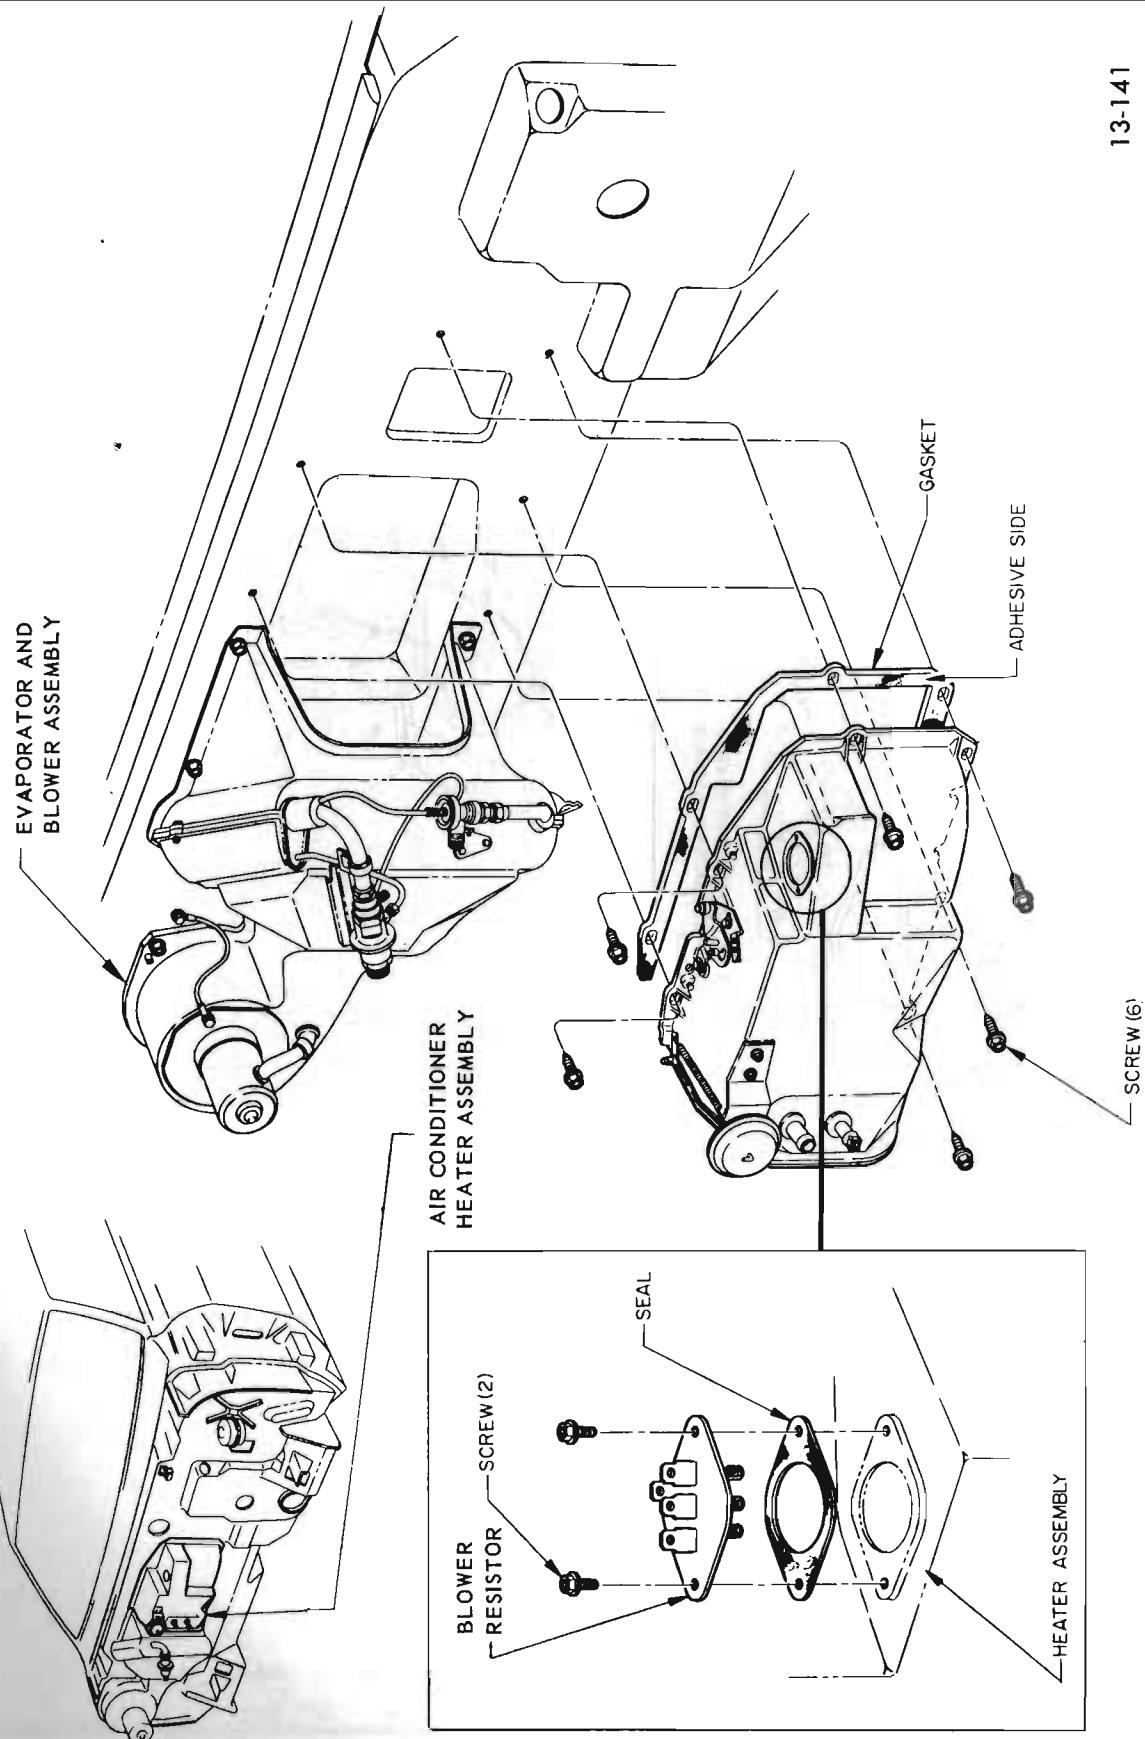

Figure 13-141—Installation of Air Conditioner Heater Assembly
6. Move rear end of return spring on diverter door lever to hook over lever pin. See Figure 13-141. This will hold diverter door in air condition position.